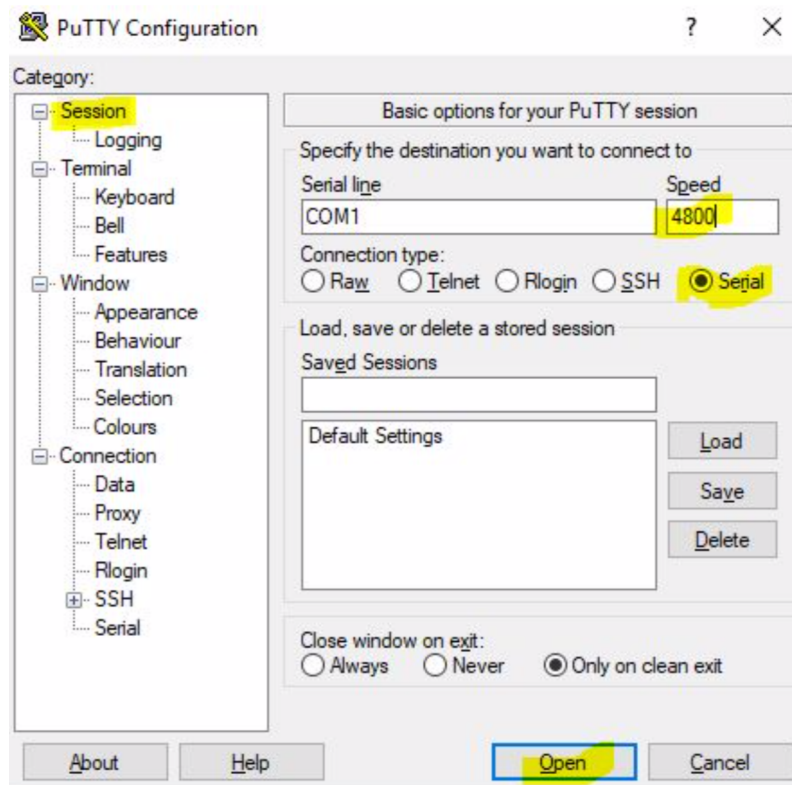

Figure 7: Flowchart for task 5
- User should setup PuTTY as the Figure 7